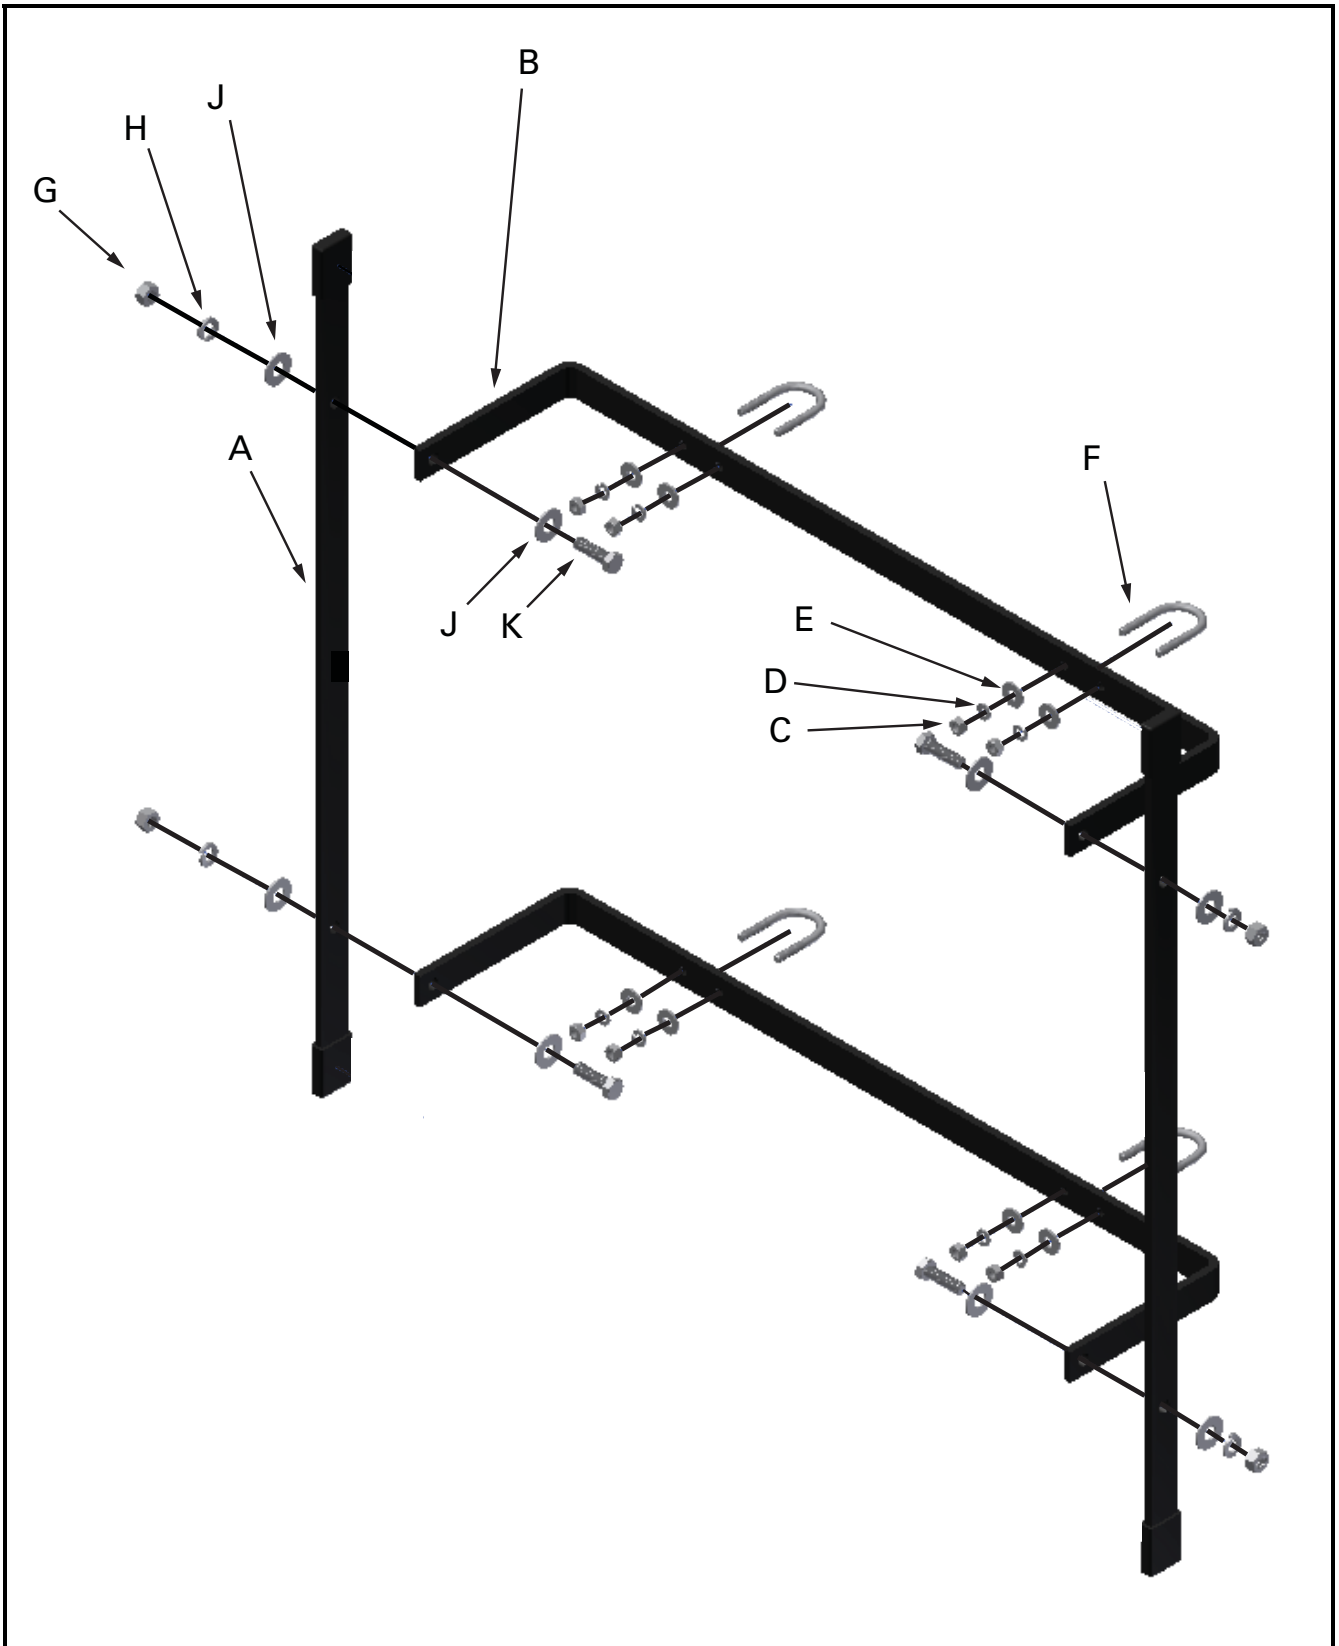

FIGURE 3. AC6000-MNT Overall Assembly.
- Attach the two cable holder rails (A) to the two cable holder bars (B) with the four hex-head bolts (K) in the locations shown in Figs. 3 and 4.